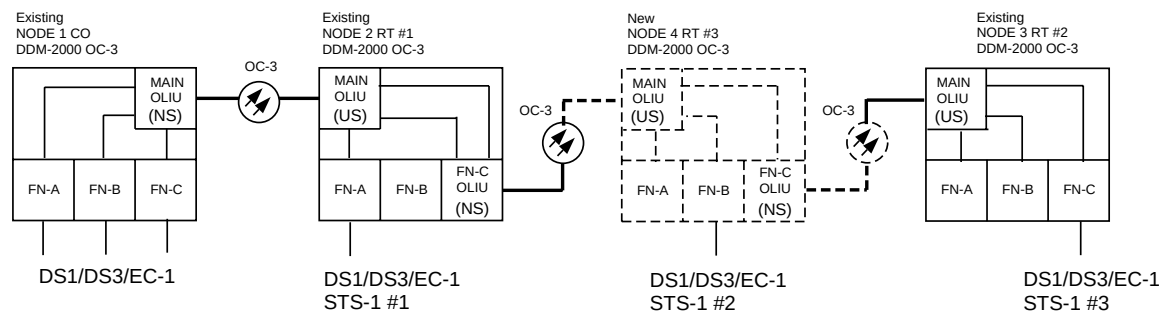

Figure 1. Adding an RT in Middle of an Add/Drop Optical Span
3. At **both** shelves on each side of the RT being added (for example, in Figure 1, RT #1 and RT #2), use the **switch-line:address:pri>manual** command to switch to the protection line [slot **2(P)**], if not already on protection.
The data communication channel (DCC) (far-end communication [fecom]) must be turned off at each shelf before the new shelf is spliced in. For example, if the configuration is as shown in Figure 1, the DCC must be disabled on both **MAIN** and **FUNCTION UNITS C** DCCs at the new shelf using these commands:
Using the **rtrv-crs-vt1/sts1:** command at existing nodes displays the existing cross-connections. For example, in Figure 1, if the new RT is being added between existing RT #1 and existing RT #2, use the **rtrv-crs-vt1/sts1:** command at RT #1 to display the existing DS1 (VT1.5)/STS-1 cross-connections to RT #2.
At new RT, use **ent-crs-sts1:address,address** or **ent-crs-vt1:address,address** command to cross-connect all in-service STS-1/VT1.5 signals from incoming optical interface to outgoing optical interface. (For example, in Figure 1, use **ent-crs-sts1:m-1,c-1**; **ent-crs-sts1:m-2,c-2**; and **ent-crs-sts1:m-3,c-3**; commands to cross-connect all STS-1 signals from **MAIN** to **FUNCTION UNITS C OLIUs**.)